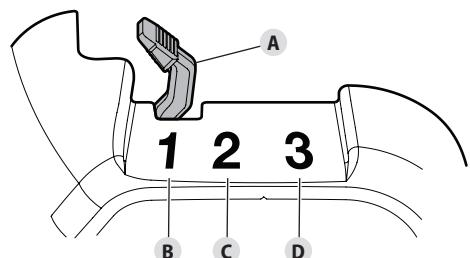

Fig. 13
2. Move the choke lever (Fig. 13-A) to **Position 1** (Fig. 13-B).
- Move the choke lever to **Position 2** (Fig. 13-C).
- Move the choke lever to **Position 3** (Fig. 13-D). Allow the engine to warm up for an additional 60 seconds. The unit may be used during this time.